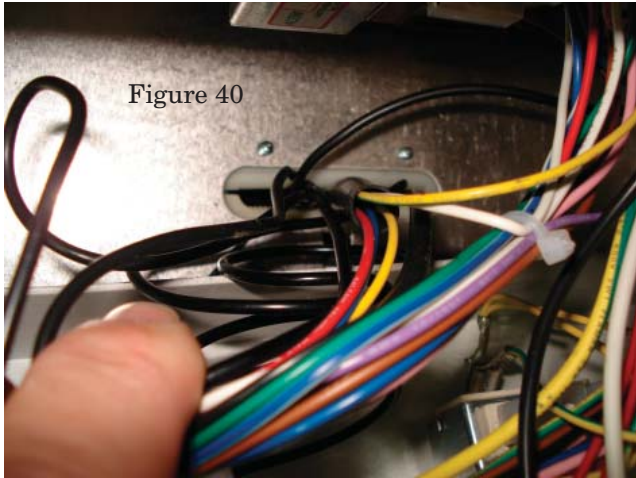

Figure 40
8. Locate the capillary tube of the existing auto-reset water temperature limit and remove it from the strain relief clamp. See Figure 40.